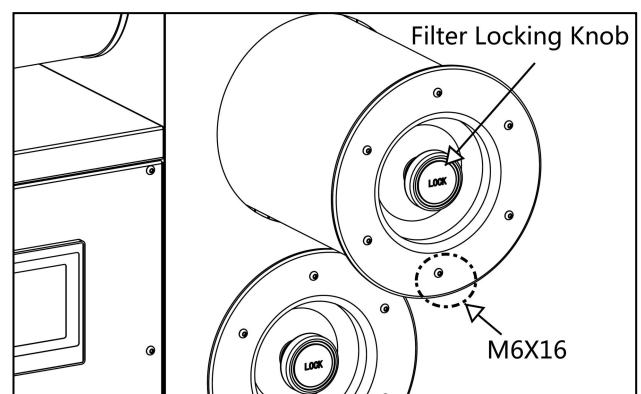

Fig.15
6.3 Cleaning or Changing the Filters (Fig. 15)
2. As shown in Fig. 15, turn the locking knob and pull out the filter. Use compressed air to clean the dust on the outside of the filter.
As shown in Fig. 15, turn the filter locking knob and pull out the filter.
As shown in Fig.15, mount the new filter, screw the 6- M6x16 screws back into place and turn and firmly lock the knob.